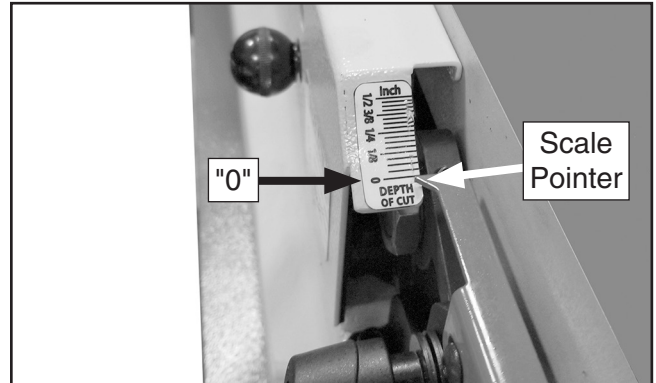

Figure 66. Depth-of-cut scale set to "0."
5. Loosen button head screws, adjust scale pointer to "0," then re-tighten screws (see **Figure 66**).